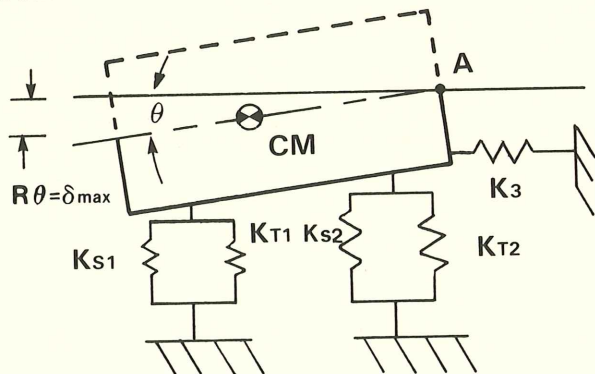

Figure 2. A simplified version of the electron gun model shown in figure 1.
Fortunately, we can greatly simplify the model by making these empirically-verified assumptions: (1) vibrational rotation occurs about point A; (2) symmetrical snubbers may be modeled on one side of the gun (eliminating the need to keep track of coordinates and other information about the upper-side snubbers); (3) reactions at the rear of the electron gun at the Kovar feed-throughs may be modeled as spring constant K_3 ; and (4) vertical snubbers react in compression, while horizontal snubbers sets react in torsion, to shock loading or planar vibration (vibration in the plane of the page). Figure 2 shows the simplified model.